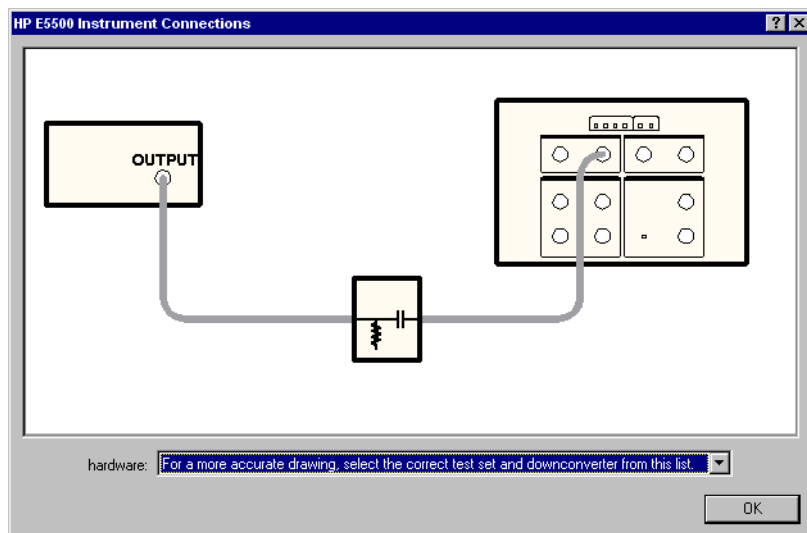

Figure 14-3 Connect Diagram for the Baseband using a Test Set Measurement
- 3 When the Connect Diagram appears on the computer's display, click on the hardware down arrow and select "HP 70420A option 001 test set only" from the pull-down list. See Figure 14-3